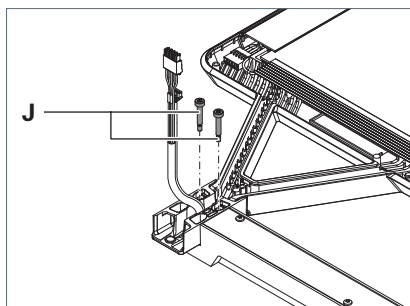

Fig. 13: Fixing luminaire head 1 in place.
2. Tighten the two adjusting screws **J** until the screw heads are flush with the adapter, see Fig. 13.